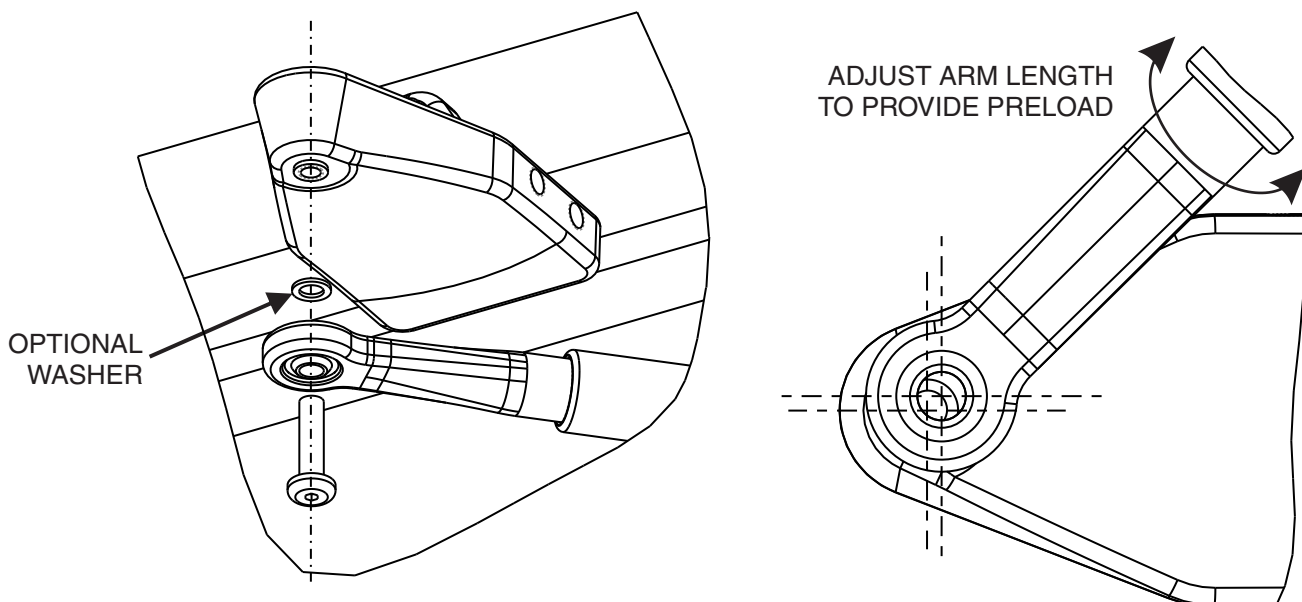

Figure 16
5. Apply preload to ensure proper closing. THREAD the adjustable door arm end link into the door arm three revolutions so the hole in the arm is approximately 1/2 diameter off from the hole in the door arm pivot as shown in Figure 16.